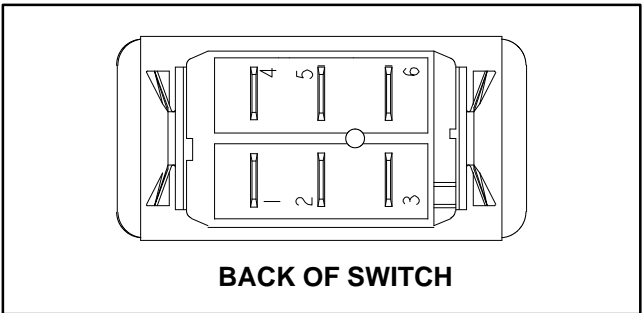

Figure 31
5. With the use of a multimeter (ohms setting), the switch functions may be tested to determine whether continuity exists between the various terminals for each position. The switch terminals are marked as shown in Figure 31. The circuitry of the cooling fan switch is shown in the chart below. Verify continuity between switch terminals.